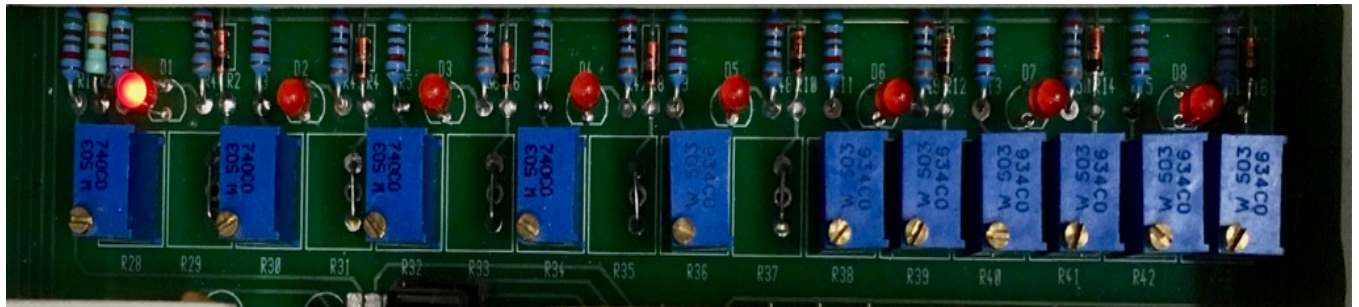

Figure 5 Spot size control pots for all ranges
- f. The spots sizes are adjusted using the Hand Held Spot Size Control Box, Fig 5. There is one pot for each of the regular spots and two pots for each line spot. For the line spots one pot is used to adjust the width and the other pot the length, Fig 5. The LEDs indicate the pot to adjust for the spot in use.